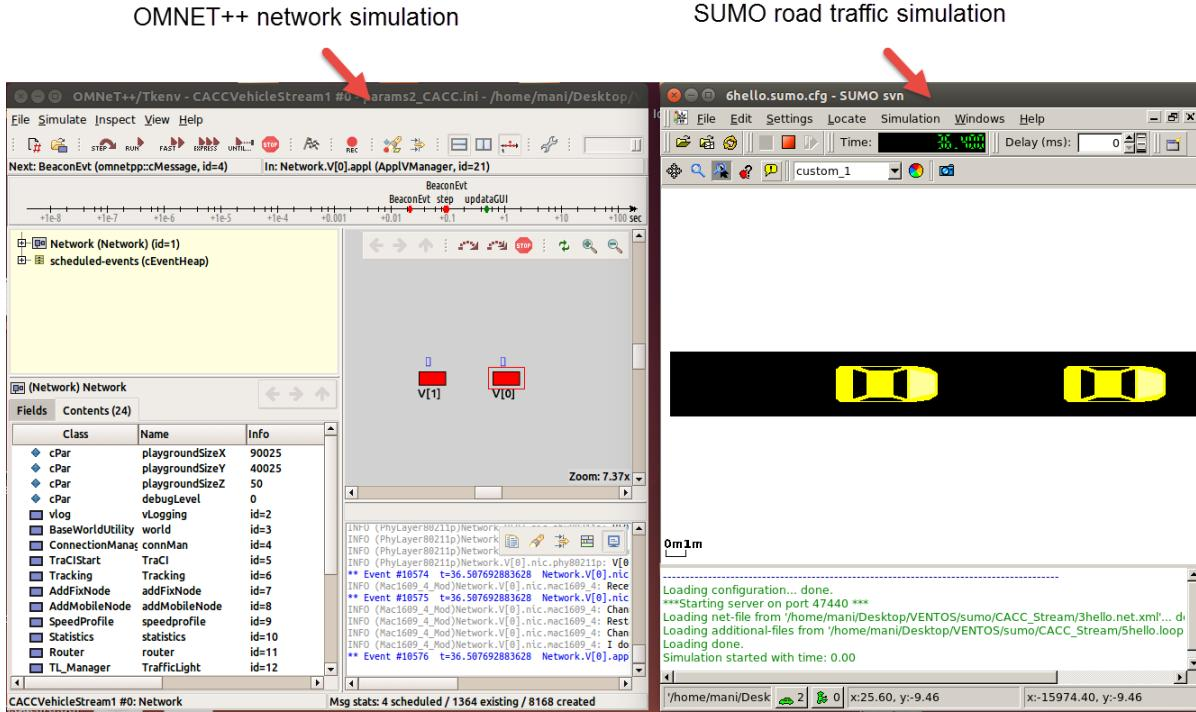

Figure 11: A scenario showing the interaction between OMNET++ and SUMO
Figure 11 shows a sample simulation scenario in VENTOS. The simulation is performed by running the OMNET++ network simulation and SUMO road traffic simulation in parallel. OMNET++ and SUMO are connected using the TraCI. Movement of nodes (vehicle/bikes/pedestrians) in SUMO is reflected as movements of nodes in OMNET++ simulation. Nodes in OMNET++ can interact with each other using V2X wireless communication and their behavior in SUMO is changed through TraCI.
5. VENTOS performs network simulations for one time-step and then forces SUMO to perform simulation for the same time-step. For each node inserted into SUMO, a node is mirrored in OMNET++ as shown in Figure 11. Movements of each yellow vehicle in SUMO is reflected as movements of the corresponding red vehicle in OMNET++.